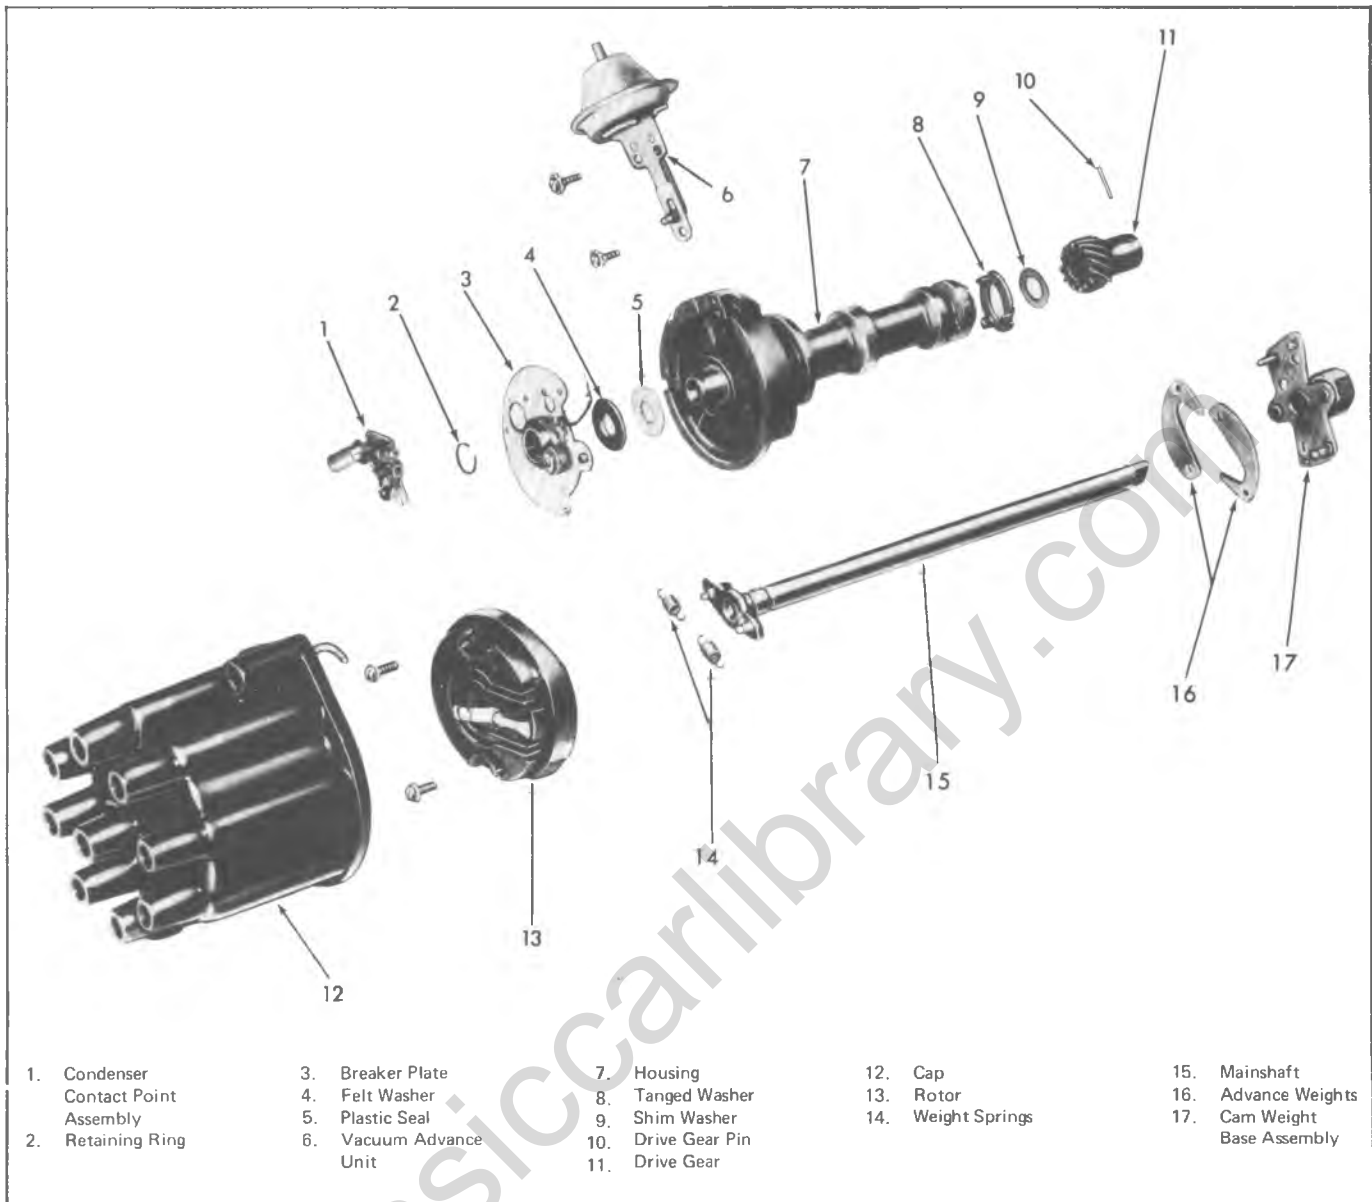

Fig. 20i-V-8 Distributor (Typical) - Exploded View
#### V-8 Engines (Fig. 20i)
**V-8 Engine—(Fig. 20i)**